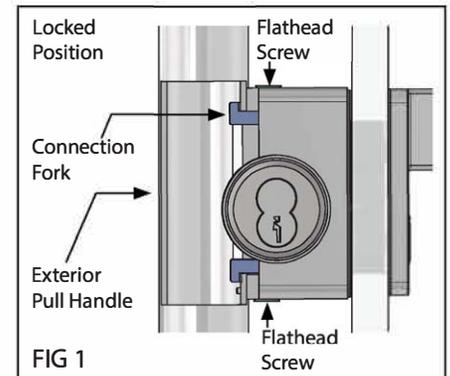

FIG 1
STEP 1: Locate the (2) #10 flathead Phillips screws near the handle on the top and bottom of the lock housing (Figure 1).